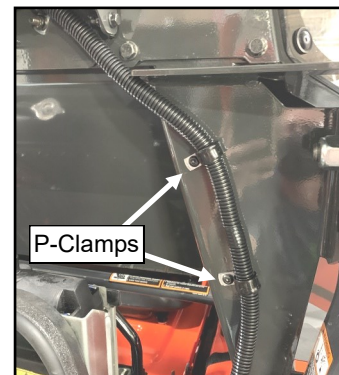

Fig. 7.5 (P-Clamp Wire Harness to ROPS Bracket)
7.5 See fig. 7.5. Cut the cable ties securing the wiring harness and attach the harness to the lower ROPS brackets with p-clamps as shown.